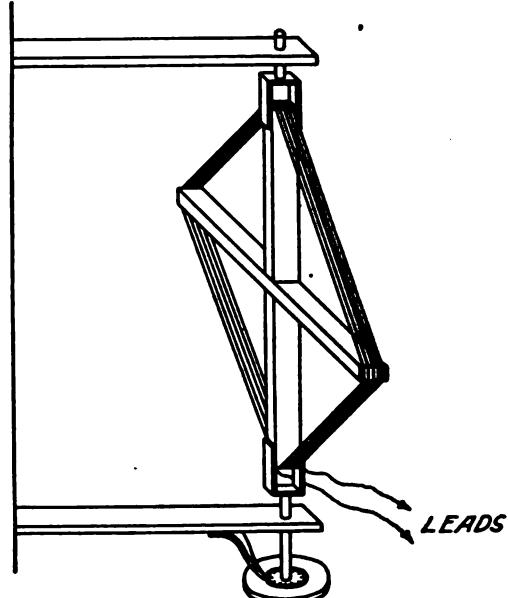

FIGURE 1
**ANSWER:** A loop suitable for use on 360 meters may be made by winding 12 turns of No. 18 copper wire, covered with a single cotton covering, on cross-arms which can be mounted as shown in Figure 6. The length of the arms should be  $3\frac{1}{2}$  feet. The turns should be spaced one quarter of an inch. The two ends of the wire are attached to the receiver. The loop may be placed anywhere in the house, close to the receiver. Using two stages of radio frequency amplification you should get the same results as you would with the detector alone on your outdoor antenna. With two stages of radio frequency amplification and two stages of audio frequency amplification you should be able to hear the broadcasting all over the house using a loudspeaker. See Figure 1.